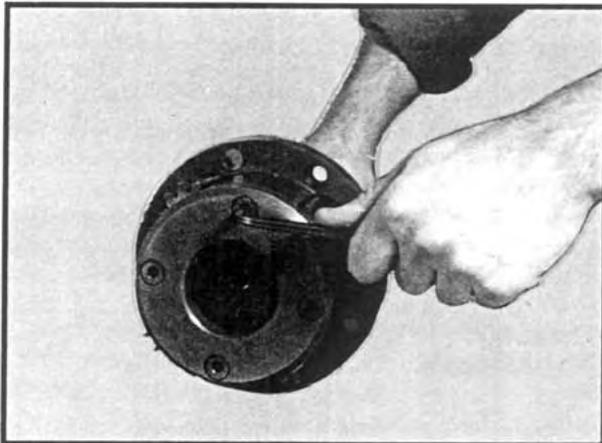

Fig 30
- Remove the (4) allen-head screws securing the planet carrier cover plate to the planet carrier. See Figure 30. Remove the cover plate and lift out the (4) planet gears. Guide the sun gear (front output shaft) out of the planet gear.